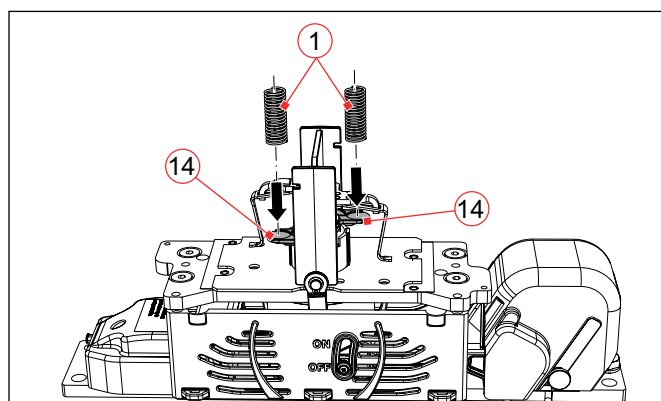
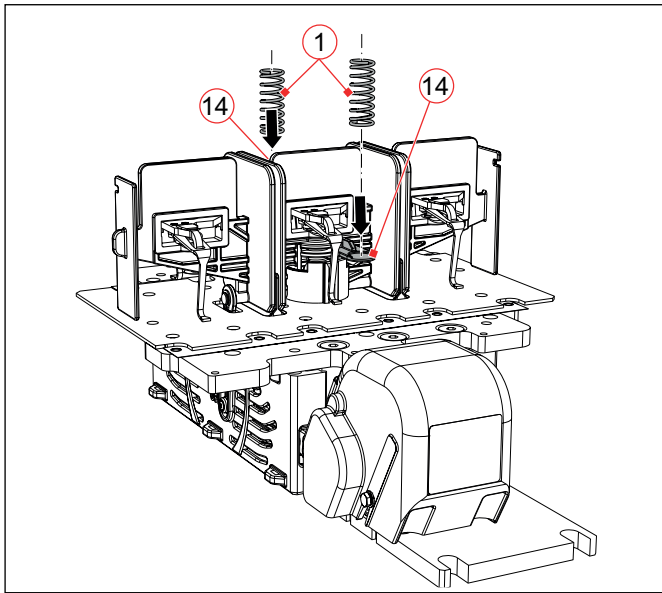
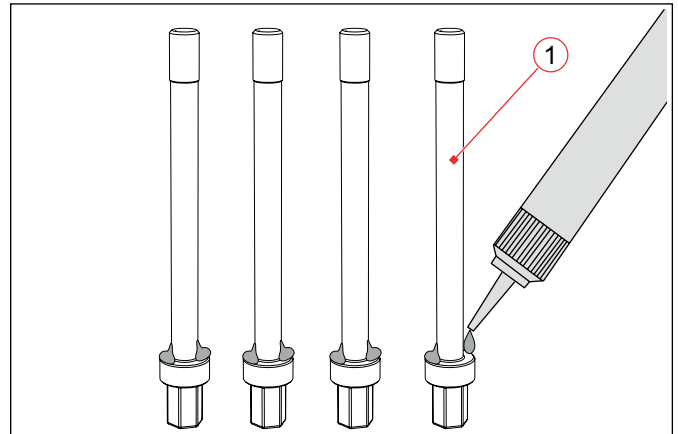

Fig. 46: CA 1115/ CA 1130: Installing the contact bridge – place the return springs
Fig. 47: CA 1315/CA 1330: Installing the contact bridge – place the return springs
Fig. 48: Only for CA 1115/04 und CA 1315/04: Apply special adhesive to the special plastic screws
- ▶ Ensure that the two return springs are inserted in the mounts on the contact bridge carrier. See Fig. 46 and Fig. 47.
- ▶ Carefully put on the new switching unit (2). Make sure that the return springs do not fall out of their mounts.
- ▶ Ensure that the two return springs are inserted in the mounts on the contact bridge carrier. See Fig. 46 und Fig. 47.
- ▶ Apply special adhesive (type Weicon Contact VA250 black or comparable product) to the 4 special plastic screws (1) as shown in Fig. 48.
- ▶ Screw on the new switching unit (2) using the special plastic screws (1) and tighten with a torque of 1 Nm.